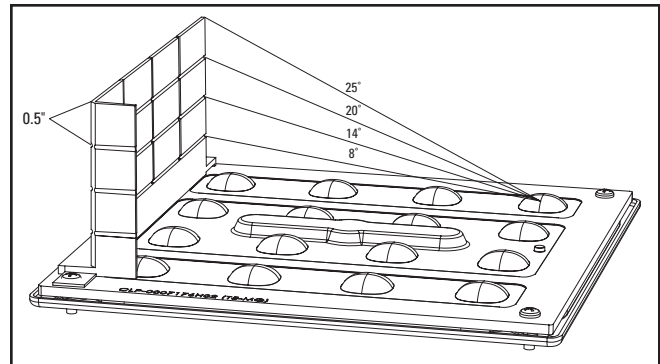

Figure 1.
Horizontal angles of occlusion, measured perpendicular to the shield from the farthest LED are as follows (FIG 1):
1. Before installing, calculate the shield dimensions needed, adjusting the height or width by cutting along the grooved sections (optional). (FIG 1)